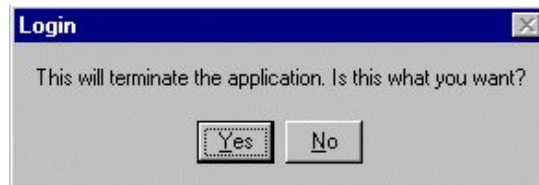

Figure 1-9 Abort Restore Operation Confirmation Message
2. If you click **OK**, the **Restore** menu is displayed as shown in Figure 1-9. If you click **Cancel**, the following confirmation message is displayed: